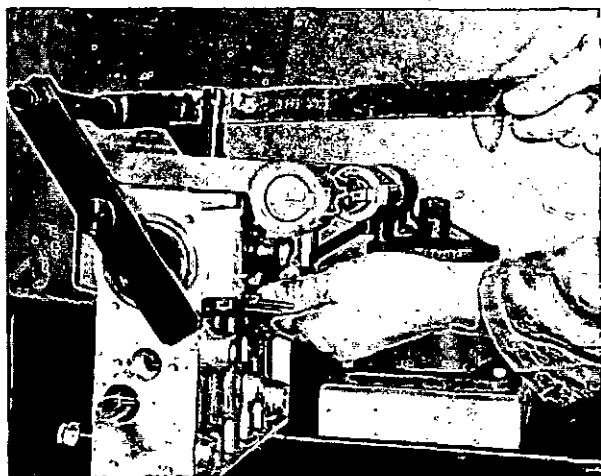

Fig. 8 Unloading plunger springs.
10. Invert the pump, fit element spring compressing tool 1 688 110 027, together with pivot bar 1 683 001 003 and, on each tappet in turn, push the roller down; remove the tappet holder and unload the plunger spring (fig. 8).